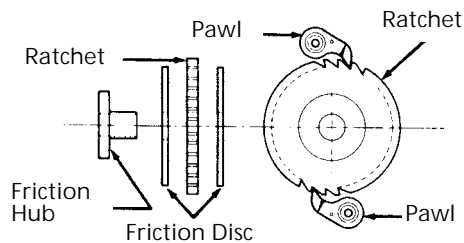

Figure 8 - Brake Assembly
1. Thread the friction hub (11) onto the pinion shaft (7) and assemble the friction discs and the ratchet on the friction hub (See Figure 8).